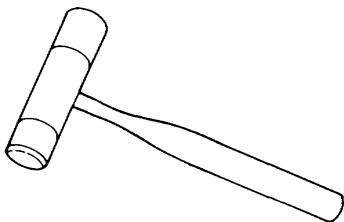

**Figure 4-5. Lead or Copper Hammer**
(5) Lead or copper hammer. The lead or copper hammer is usually used for aligning steel surfaces. Atypical hammer of this type is shown in figure 4-5. The working surfaces of this hammer can be filed to restore even faces.